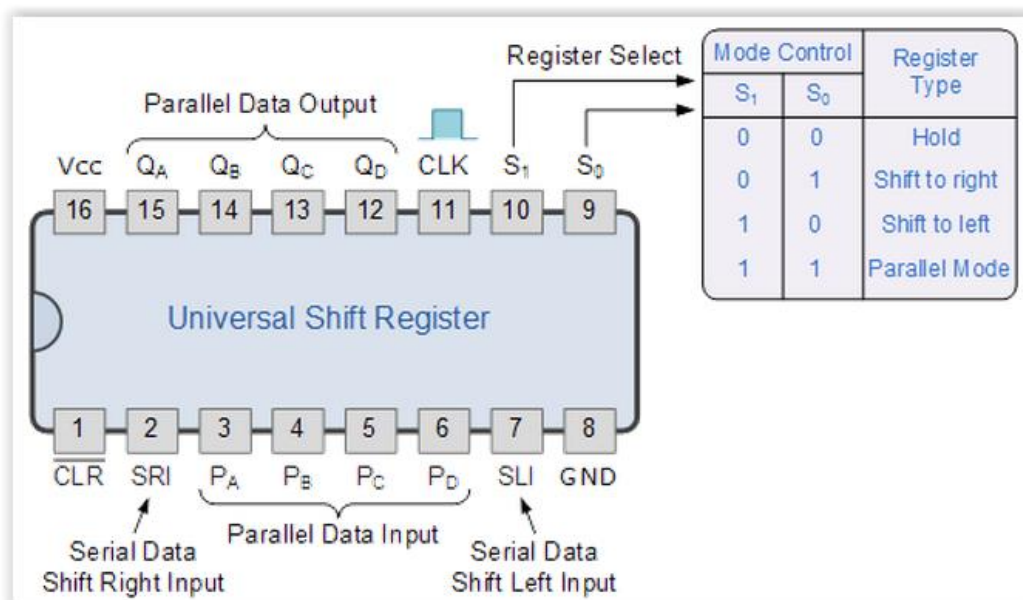

Figure 3: Block diagram and operating modes of a 4-bit universal shift register
- a) The universal shift register (USR) is a sequential logic circuit that can perform any combination of parallel and serial input to output operations but require additional inputs to specify desired function. Figure 3 shows the block diagram of a 4-bit USR circuit. The USR has four distinct modes of operation, namely: (i) Parallel (broadside) load, (ii) Shift right (in the direction Q_A toward Q_D), (iii) Shift left (in the direction Q_D toward Q_A), (iv) Hold clock (do nothing). Write a **parametric** Verilog code of an **n-bit** USR with a positive-edge clock and asynchronous clear. You are allowed to use any appropriate modeling style (structural, data-flow, or behavioral) or a combination of them to describe the USR. Also write a Verilog code of a testbench to test the developed USR at different modes of operation for a clock period of 10ns.